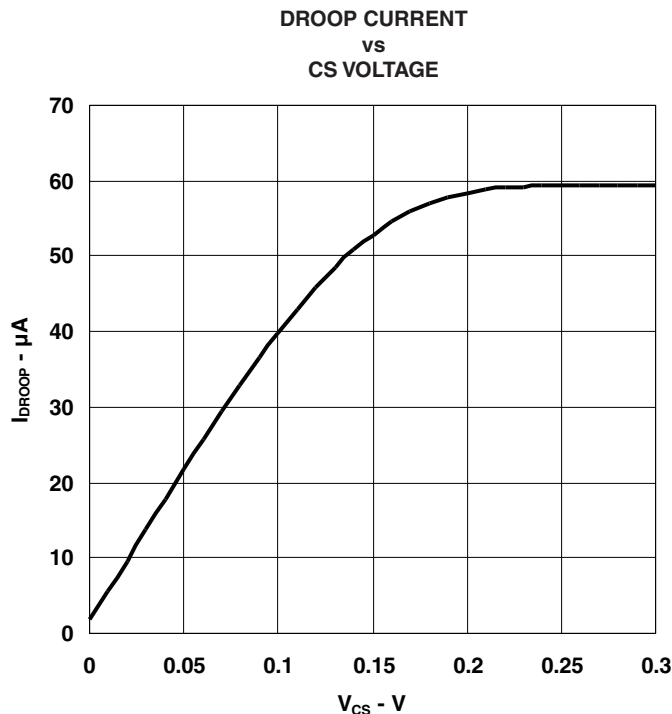

Figure 6.
(1)  $I_{\text{DROOP}}$  is relatively linear vs  $V_{\text{CS}}$  and is typically 40  $\mu\text{A}$  at  $V_{\text{CS}} = 100 \text{ mV}$ . Above  $V_{\text{CS}} = 100 \text{ mV}$ ,  $I_{\text{DROOP}}$  becomes nonlinear, rolls off, and saturates to approximately 50  $\mu\text{A}$  to 65  $\mu\text{A}$  when  $V_{\text{CS}} > 200 \text{ mV}$  (see Figure 6). Thus, above 100 mV, Equation 9 is not accurate.